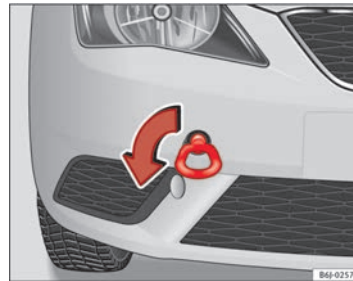

Fig. 180 Fitting the towline anchorage to front of the vehicle
- Bolt the anchorage to its limit to the *left*, in the direction of the arrow ⇒ Fig. 180. ■